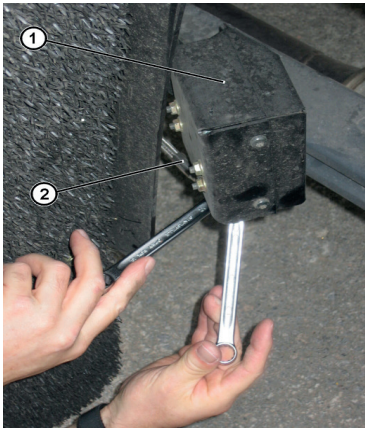

Fig. 3: Connecting the test pressure line_1
1. Disconnect the vehicle-specific metering line connection (fig. 3, item 2) on the metering module (fig. 3, item 1).